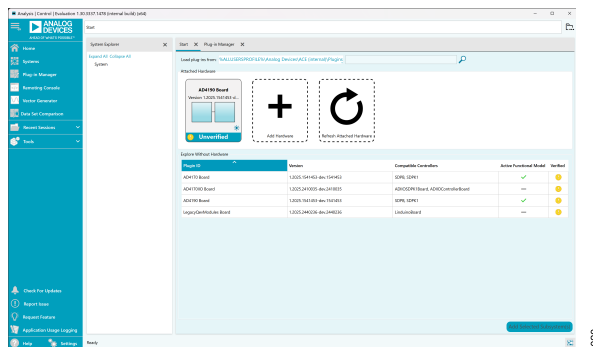

Figure 20. AD4190-4 Evaluation Board Connected
3. Double-click the **AD4190 Board** icon to open the **AD4190 Board** view window, as shown in Figure 20.